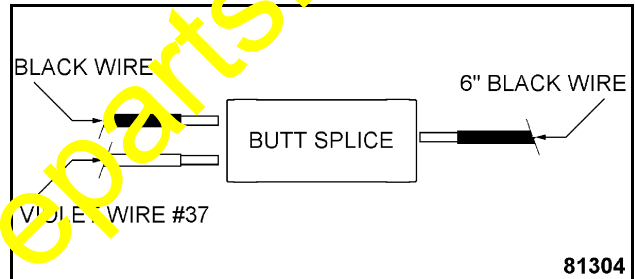

Figure 2
5. Using the butt splice, connect the black and #37 violet wires together on one side and add the 6" black wire to the other side (see Figure 2).